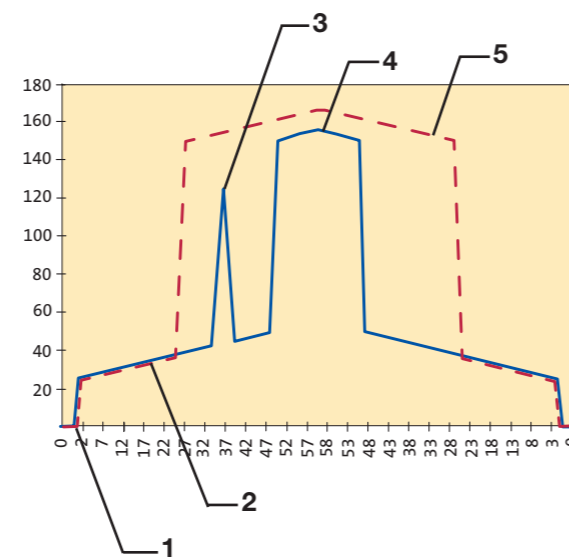

Figure 7:
4.3 Build-up of pressure in the system (Fig. 7)